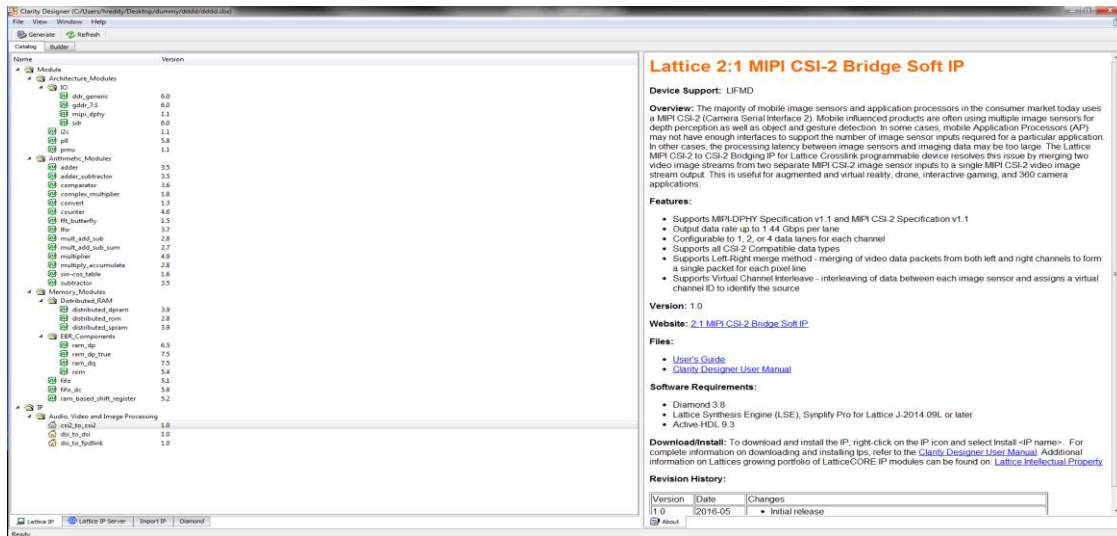

Figure 4.2. csi2_to_csi2 IP in IP Catalog
4. View the IP in the IP catalog as shown in Figure 4.2.